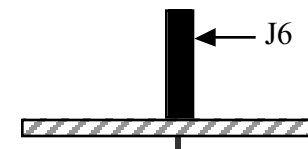

Figure 6-4
- ☐ Install an 8-pin female connector at J6, on the top side of the RF board. It must be flush with the board and not tilted (Figure 6-4). Solder just one pin near the center of J6.